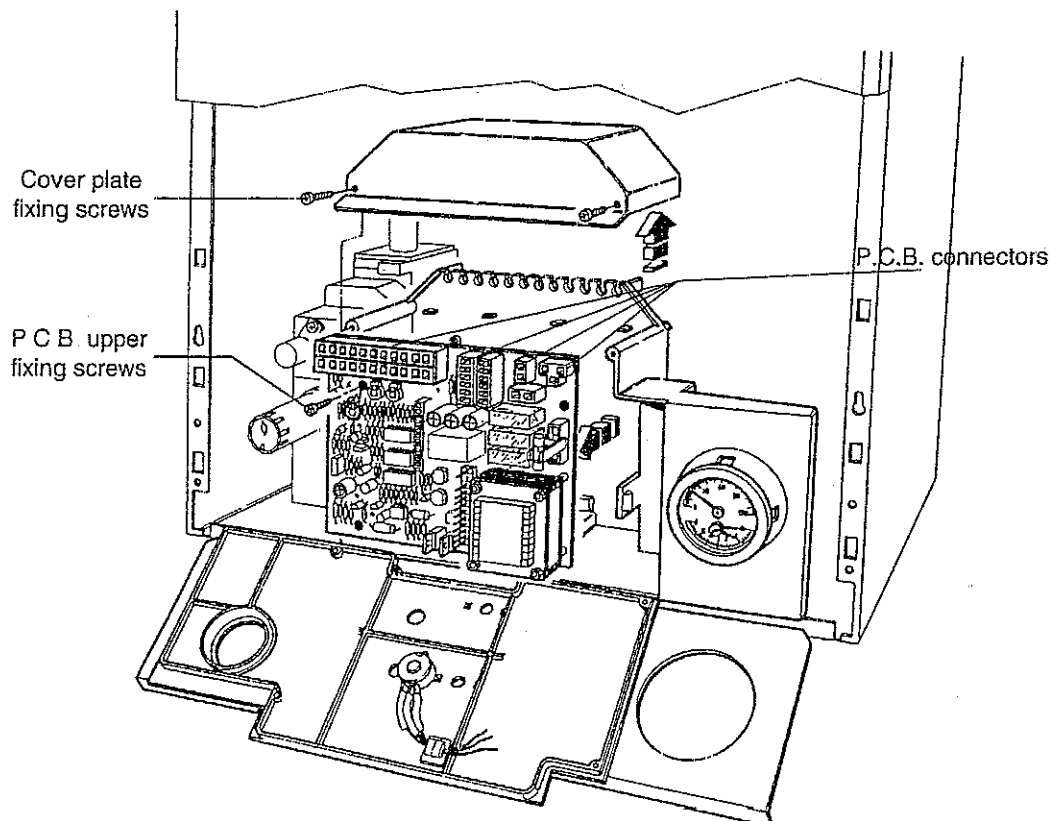

Fig 39
- b) Unscrew two fixing screws on the P.C.B. top cover plate, lift and disconnect all connectors from P.C.B (fig. 39).